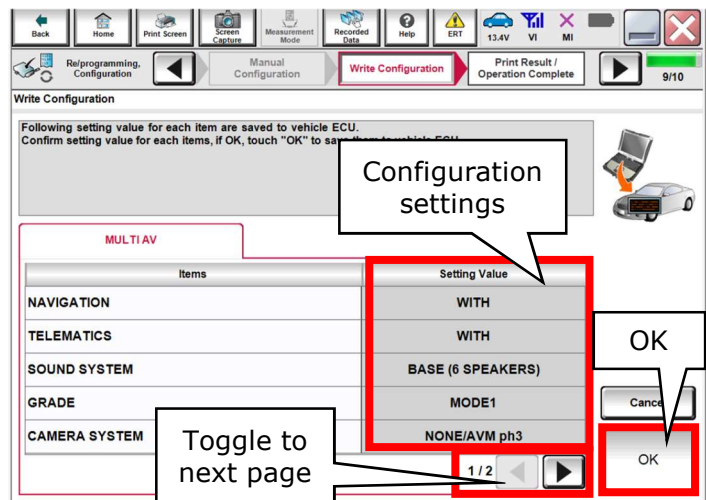

Figure 36
39. Confirm the configuration setting values are correct. (Figure 36)